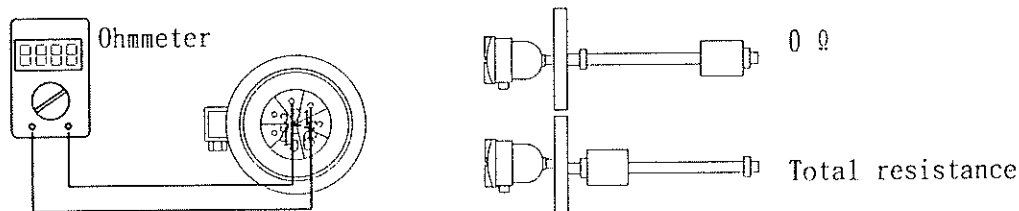

Fig. 15
(3) Sensor operating(See Fig. 15)